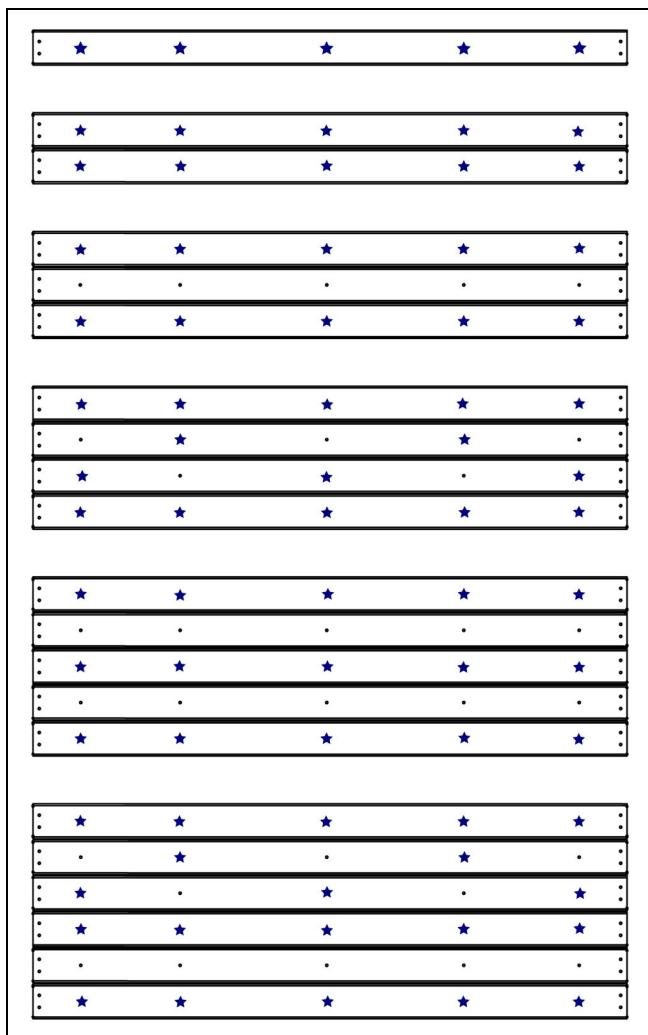

Figure 53 Place fasteners through Head Jamb, Sill, and Jamb at locations indicated by the star shapes above.
4. Use the chart below to determine proper fastener placement depending on configuration (number of tracks). See Figure 53.
6. Install the remaining screws into the sill. (not provided on performance or flush sills). Fasten HP sills at 10" (254) on center. All other sills, fasten at 20" (508). See Figure 66. See Figure 53 previously for screw placement.